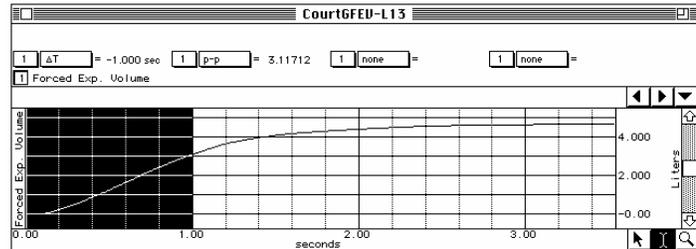

Fig. 13.18 FEV_1
5. Use the **I-beam** cursor to select the first one-second interval (Fig. 13.18).